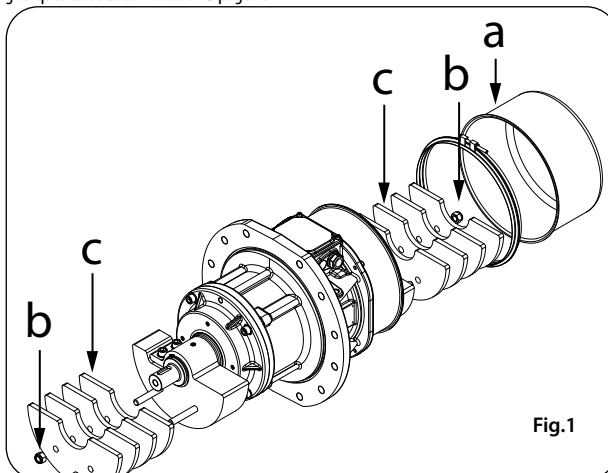

Fig.1
- Remove the side cover (pos.a Fig. 1).
- Unscrew the nuts securing the masses (pos.b Fig. 1).
- Depending on whether you want to increase or decrease the intensity of the vibration, add or remove the masses (pos.c Fig. 1).